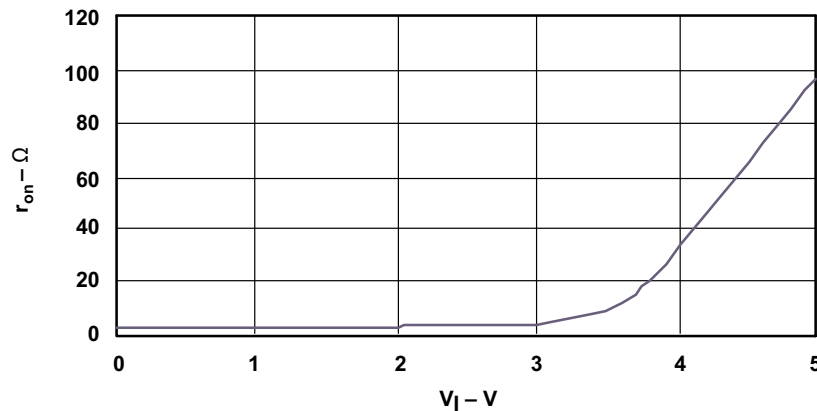

Figure 3-2. r_{on} vs V_I Characteristics of an NMOS Series Switch ($V_{CC} = 5\text{ V}$, $I_O = -15\text{ mA}$)
When the output enable (OE) signal is low, the voltage at the gate is high, or equal to V_{CC} . If the voltage at the drain (V_I) is less than V_{CC} by the threshold voltage of the n-channel transistor, the on-state resistance (r_{on}) is low and the voltage at the source is equal to V_I ($V_O = V_I$). If V_I approaches V_{CC} , r_{on} increases rapidly, the source voltage does not increase with the drain voltage, and the output voltage remains at $V_{CC} - V_T$. A limitation of the NMOS series switch is that it can pass signals only up to a threshold voltage below V_{CC} . Figure 3-2 shows the general shape of r_{on} vs V_I characteristic of a typical NMOS series switch.